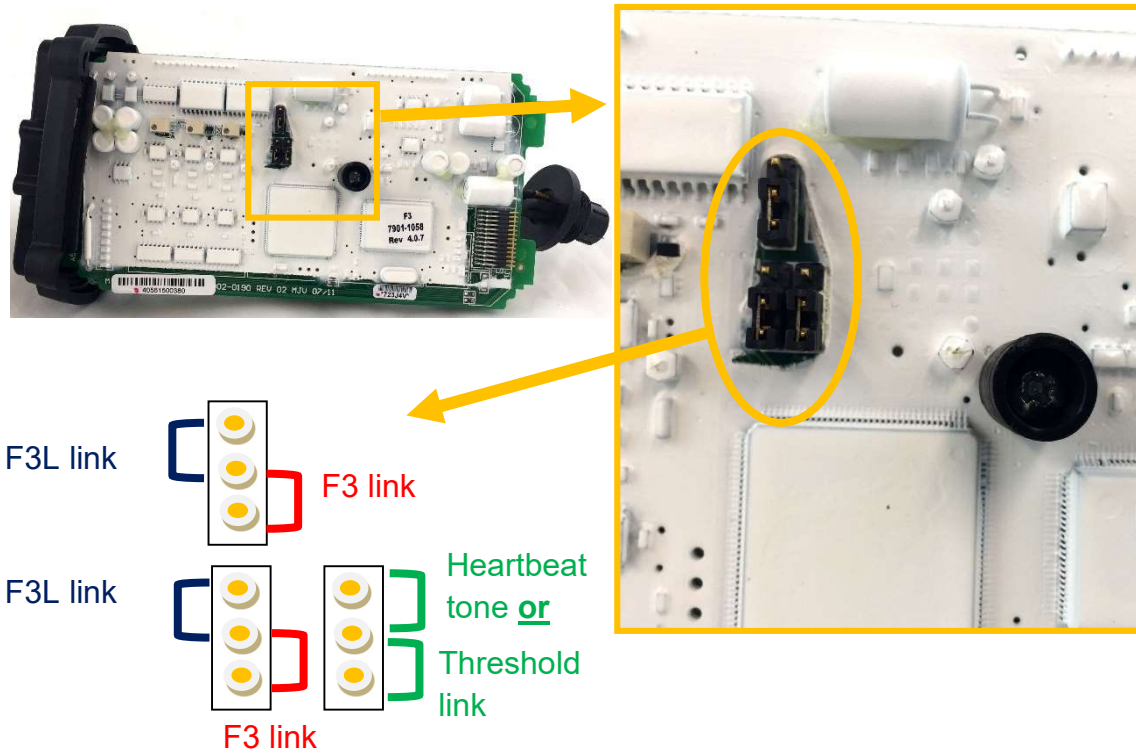

Figure 22: Configuration links.
- Identify and check the configuration links on the micro pcb, refer to Figure 22.
- Check the configuration links are correctly set refer to Figure 22.
- Position the two tabs at the rear of the coil retainer cover (Figure 22) into the cut-outs in the rear of the coil top.